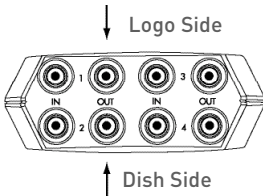

Fig 17.
1. Locate your SW21 multiswitches and disconnect the satellite leads connected to the "TO RECIEVER" terminals. See Fig 17.
2. Connect the satellite leads to the OUT 1 and OUT 2 terminals on the TV44. See Fig 17.